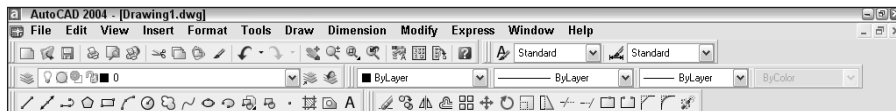

Figure 3-3: Docking the Draw and Modify toolbars at the top of the screen
2. Click the Modify toolbar's grab bar and drag it in the same way you did the Draw toolbar until it is docked under the Properties toolbar (which is to the right of the Layers toolbar). Your screen should look something like Figure 3-3. (If your screen resolution is 800×600, the toolbar won't be completely visible. Instead, you can dock it under the Draw toolbar.)